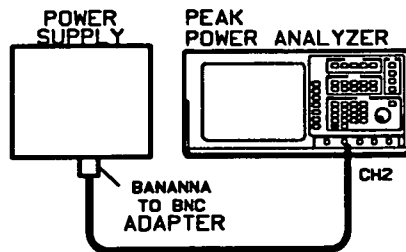

Figure 1-7. Checking Offset Accuracy Equipment Setup
1. Connect the equipment as shown in Figure 1-7.